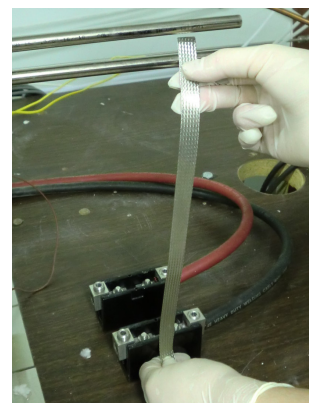

Figure 2
2. Measure the distance from your manifold tubes to your current collection system (Figure 2). Cut the included copper braided leads into 2 pieces, each a slightly longer length than the measured distance.